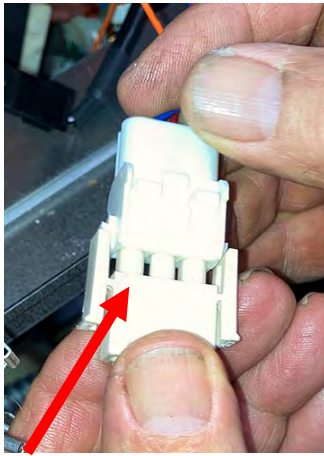

Figure 29
- k. Attach the 3-pin male moxex connector to the 3-pin female moxex connector from the previous step (see Figure 29).